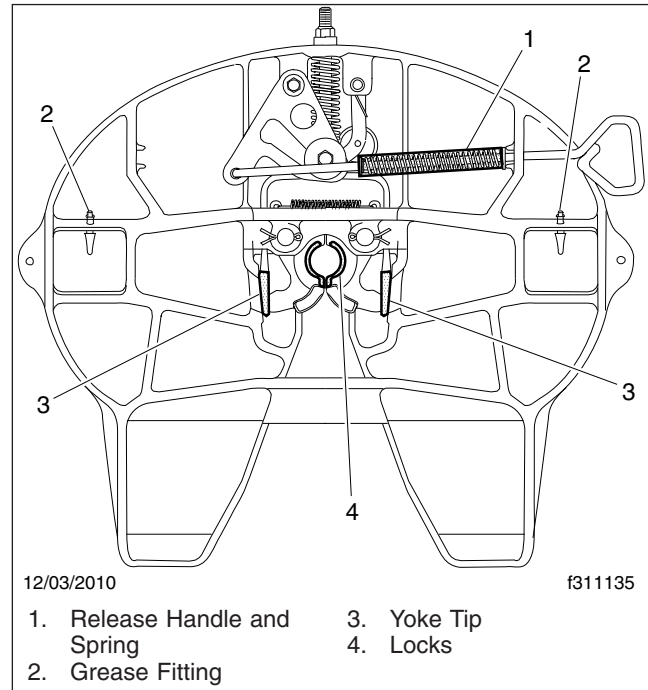

Fig. 12, Holland FW35 Fifth Wheel, Grease Lubrication
- Grease the yoke tips, locks, and the release handle and spring; see **Fig. 12**. Grease the mounting bracket supports through the grease fittings. A “low temp” grade grease rated for -30°F (-34°C) or lower such as Cato Oil and Grease #5213, Craftsman Chemical Co. #LTF 2, Mystic LP-200, or equivalent is recommended.